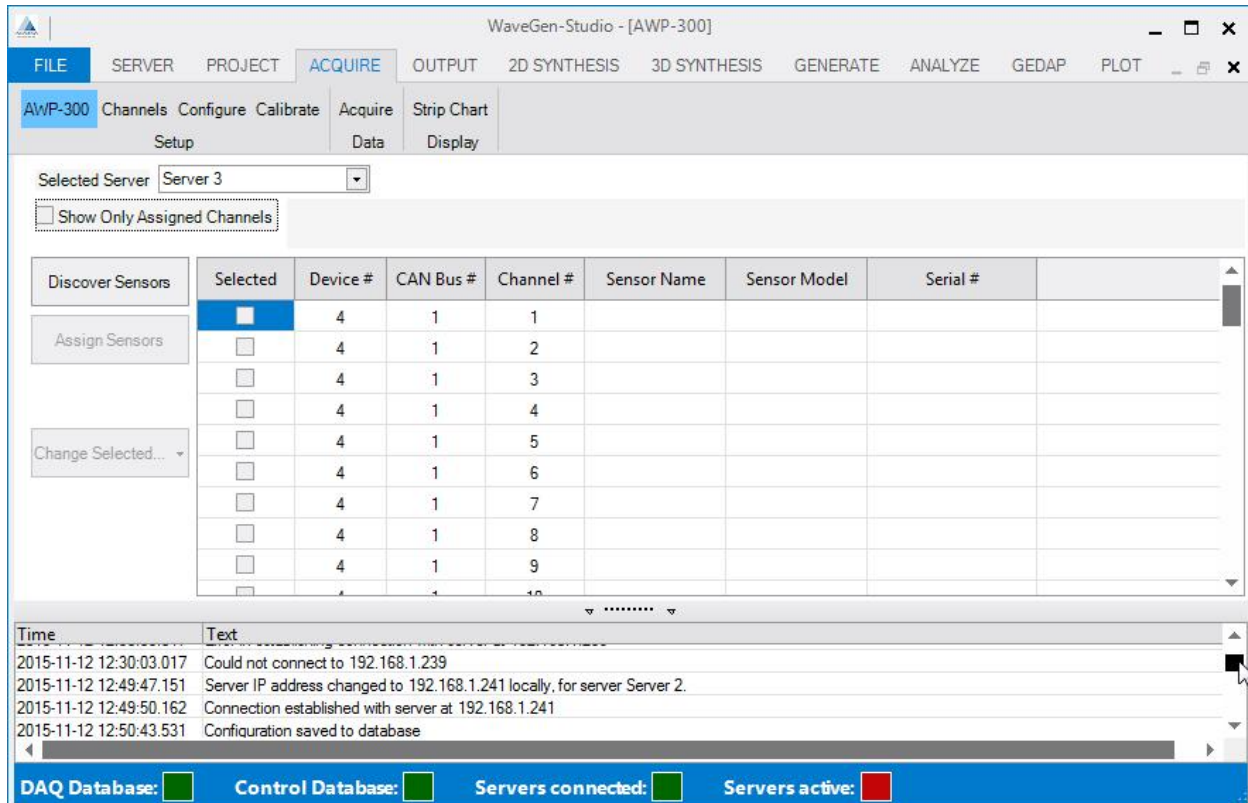

Figure 33: Setup AWP-300 Option
The AWP-300 interface is shown in Figure 33 **Error! Reference source not found.** It is only possible to use this interface if the server is not actively sampling (i.e. the Active Status in the SERVER interface is red Not Active). Turning off the sampling messaging between the server and the AWP-300 gauges allows management messaging to use the CAN Bus.
When the Setup → AWP-300 interface is first loaded, only those channels that have been assigned serial numbers are displayed. Unchecking the Show Only Assigned Channels tick-box will result in all serial-type channels being displayed immediately - regardless of whether any gauges have been assigned to any channels (Figure 33).
1. Referring to the previous example (Figure 33), if we scroll down the page and attempt to assign a serial number to Device 5, Channel 1, double-clicking in the Serial # cell displays an empty drop-down list. This is the result of the discovery process not finding any sensors on Device 5, CAN Bus 1. Double-clicking in the Serial # cell for Device 4, Channel 1, however, results in a drop-down list that includes serial numbers 105 and 106.